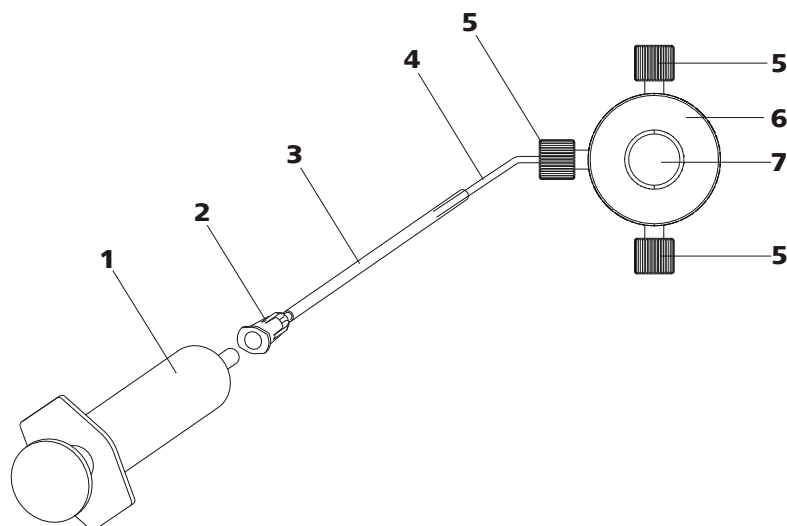

Figure 22 Deaerating the high pressure pump
Deaerate the high pressure pump as follows (see figure 22, page 42):
- Insert syringe (22-**1**) in the Luer connector (22-**2**) of the purging needle (see figure 22, page 42).